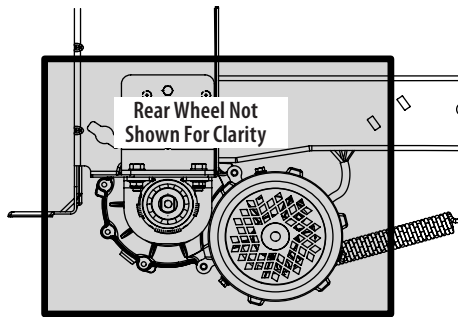

Figure 18
- Clean around and near the transmission and axle. See Figure 18.